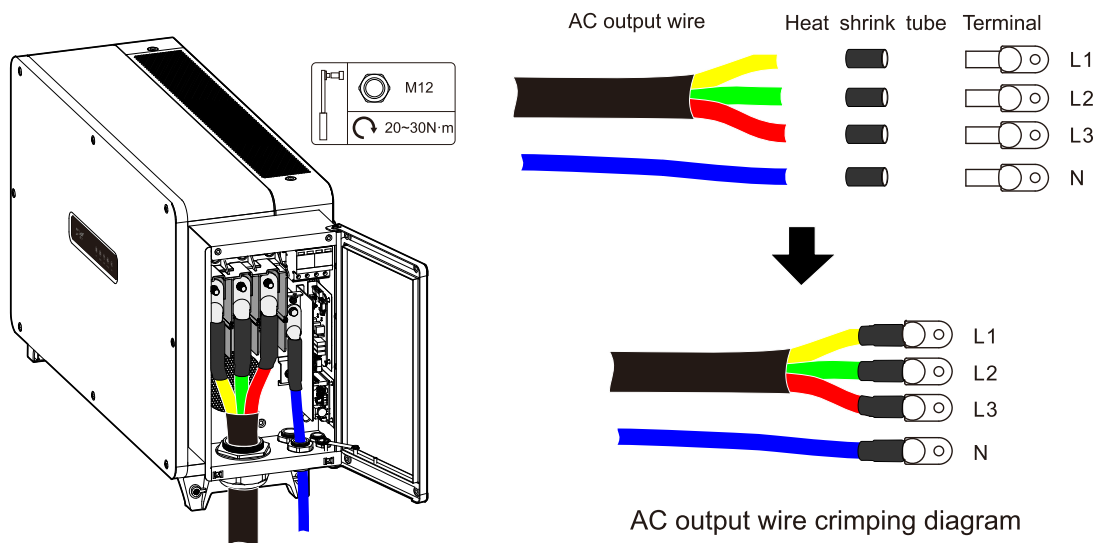

Figure3-32 Connect the AC output wire
Step 2 Loosen the nylon cable gland in the "AC OUTPUT", draw the L1, L2, L3, N wires through the nylon cable gland, and strip the L1, L2, L3 and N wires respectively through wire stripper, and crimp them to the terminal, and then connect the L1, L2, L3 and N wires to the AC output terminal, as shown in Figure3-32.